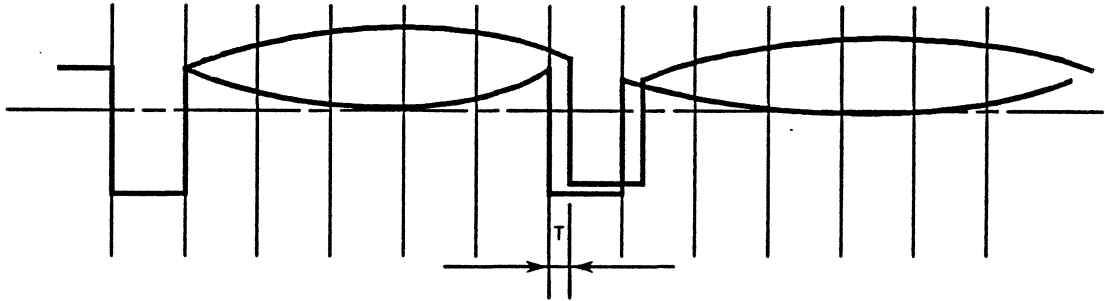

Fig. 9.10 Asymmetry Waveform
- (4) Write 1F.
- (5) A read wave form is displayed on the oscilloscope as shown in Fig. 9.10.
- (6) Confirm if it satisfies the value as shown in Table 8.1.